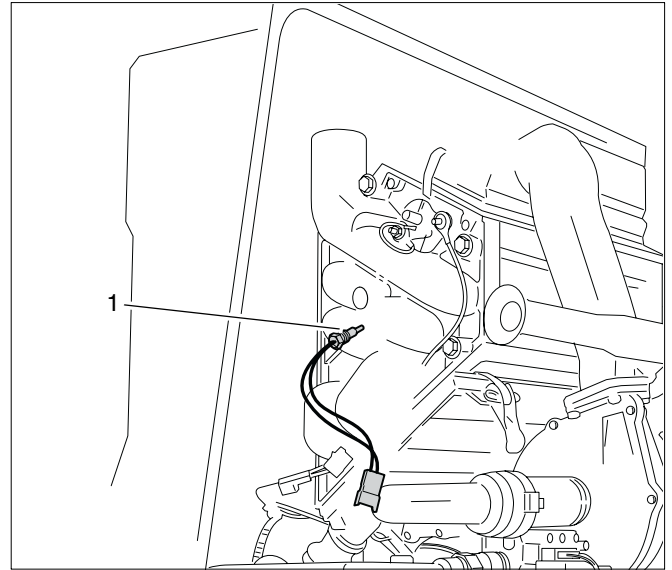

Fig. 56 Replacing the safety sensor
Safety sensor see fig. 56, pos. 1.